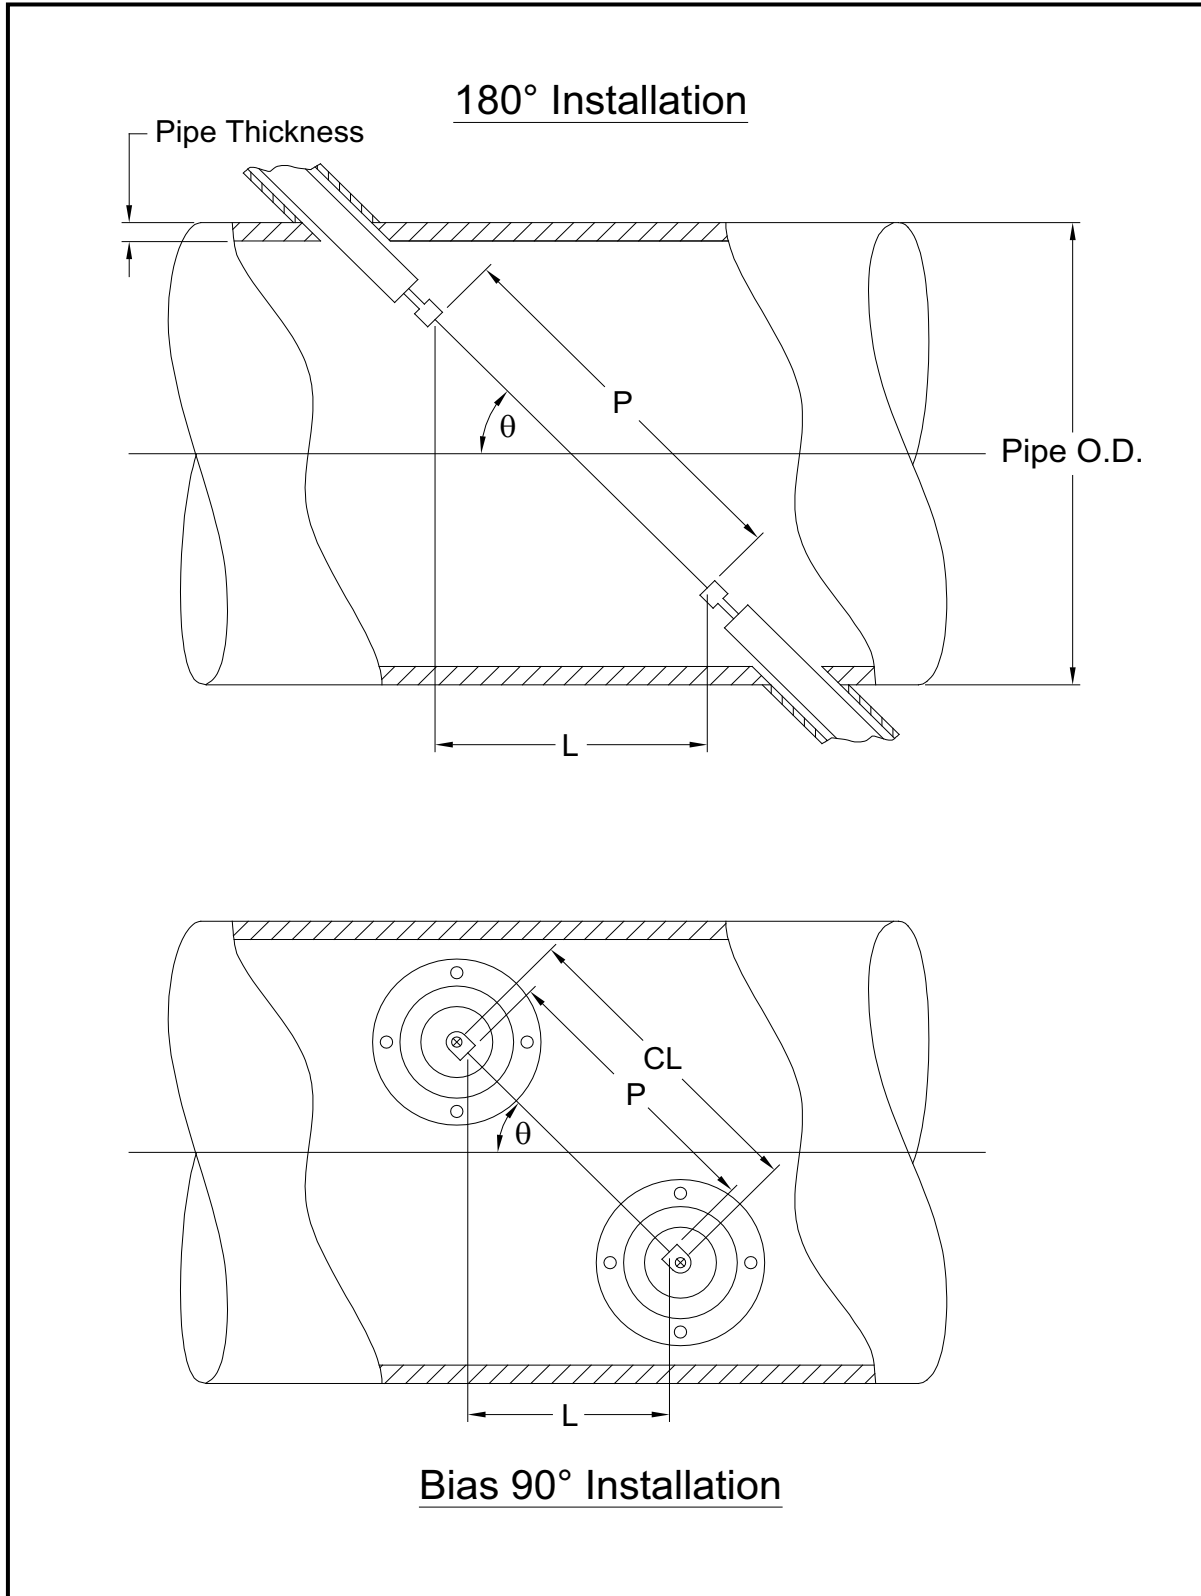

Figure 22: Top View of Typical Transducer Installations
The accuracy of the programmed P and L values is critical to precise flow rate measurements. If Panametrics supplies the flowcell for the system, the correct values will be included in the documentation supplied with the system. For transducers installed on an existing pipe (see Figure 22 on page 68), P and L must be measured at the site. This appendix provides instructions for properly determining these dimensions.
Whenever possible, physically measure the face-to-face distance (P) and the axial distance (L) between the centers of the flat faces of the transducers. Refer to Figure 22 on page 68 for an illustration of the proper distances to measure, in a typical installation.
With a Bias 90° transducer installation, it sometimes happens that the only known parameters are the transducer angle (θ) and the centerline distance between the transducer bodies (CL). In these cases, it is still possible to calculate P and L by combining Equation C-1 with the additional Equation C-2 (see Figure 22 on page 68):